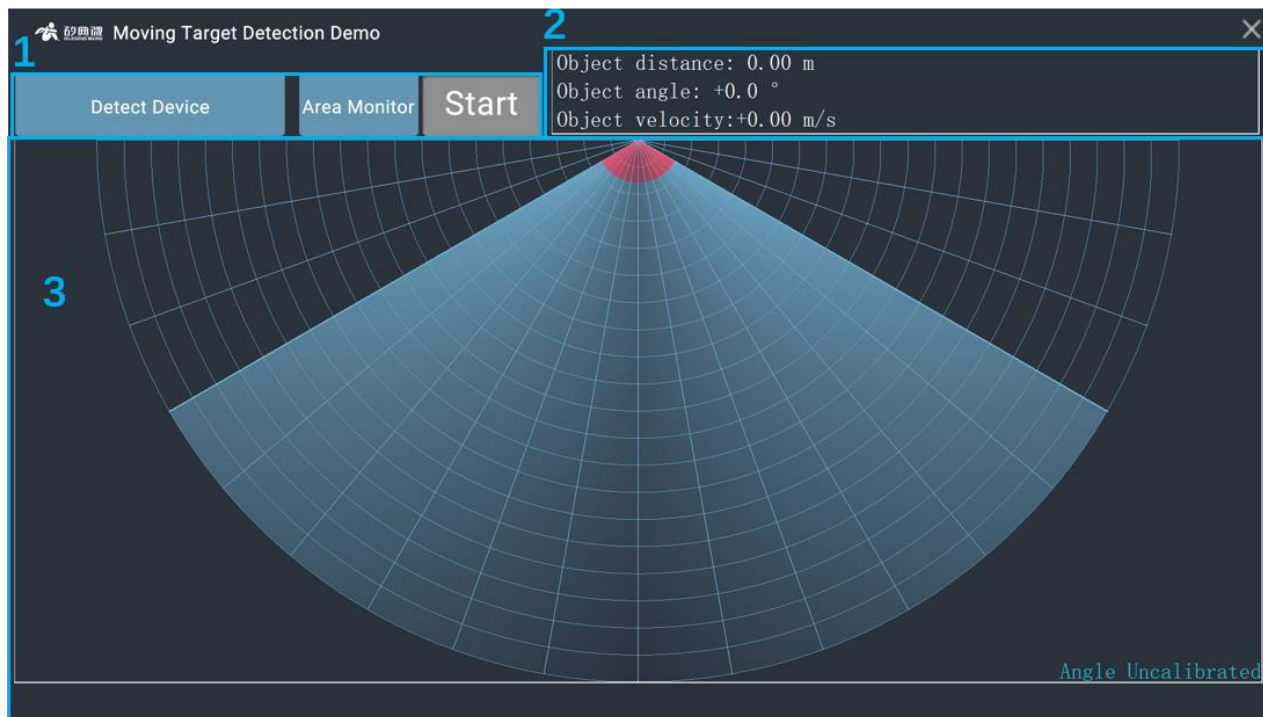

Figure 4-4 Moving Target Detection demonstration GUI
Currently, no configuration is needed for running moving target detection demonstration. The visual interface of Moving Target Detection program is shown in Figure 4-4.
As shown in Figure 4-4, Moving Target Detection GUI can be partitioned into 3 zones, they are Operation Zone (1), Results Display Zone (2) and Position Display Zone (3). Functions of each zone are explained in Table 4-2.